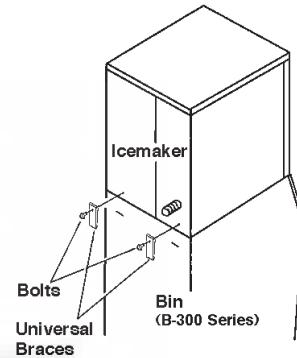

Fig. 2
- 4) From the accessory pack, locate the two universal braces and bolts to secure the icemaker to the bin. (See Fig. 2).